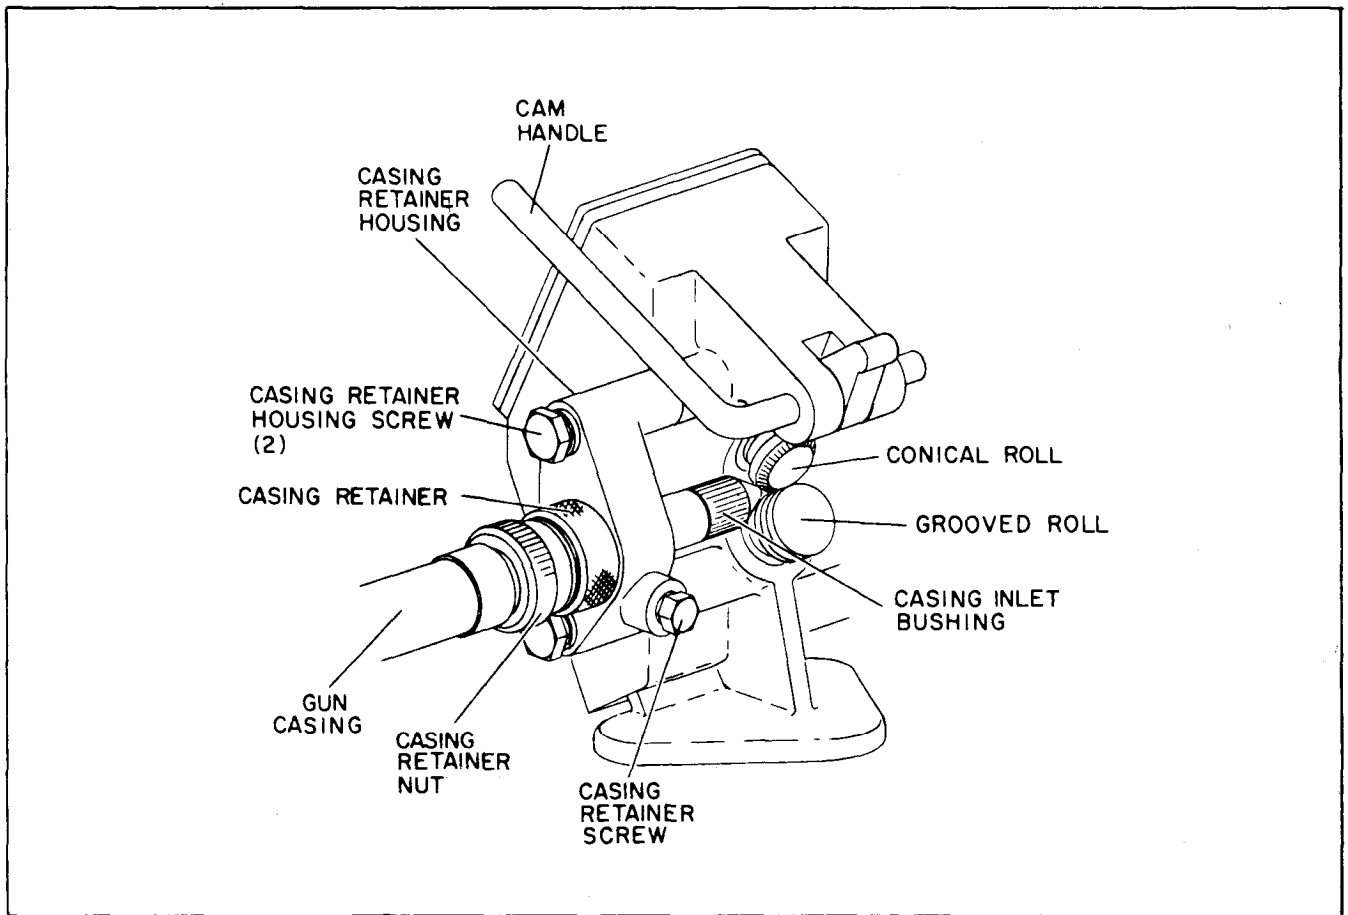

Figure 6. Drive Roll Housing
and out about an inch through the casing inlet guide bushing housing (Fig. 6).
- m. Pass the end of the gun casing through the casing retainer (Fig. 6).